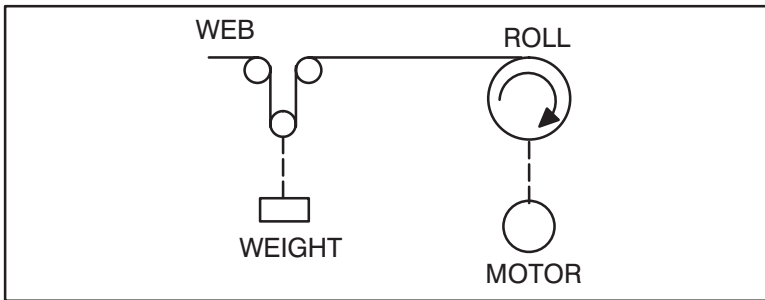

Figure 4-2. Pre-loaded Dancer Loop Preceding Winder.
- Load the motor with a reasonably constant load over the speed range. Such a system may be a preloaded dancer loop preceding a center driven winder. See Figure 4-2.